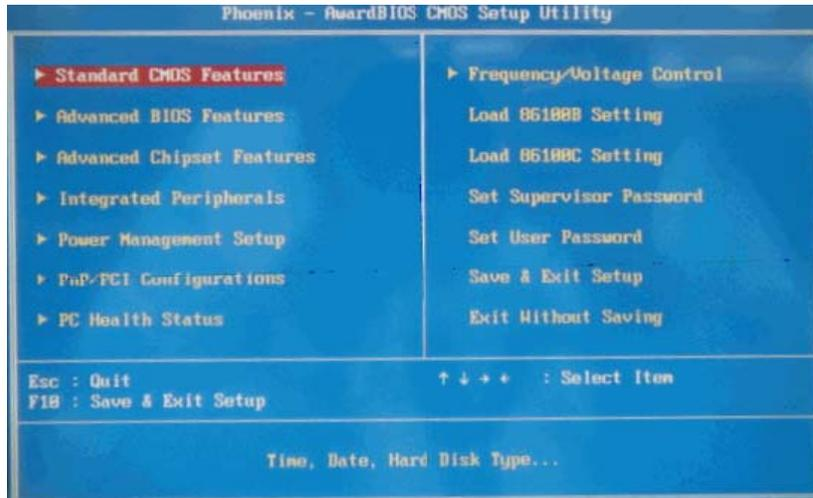

Figure 6-14. Press Delete to start CMOS Setup Utility
- 8 When the instrument's displays the entry screen, you will see DEL to enter SETUP on the bottom of the screen, press the Delete key. This enters the CMOS Setup Utility, which is shown in Figure 6-14.